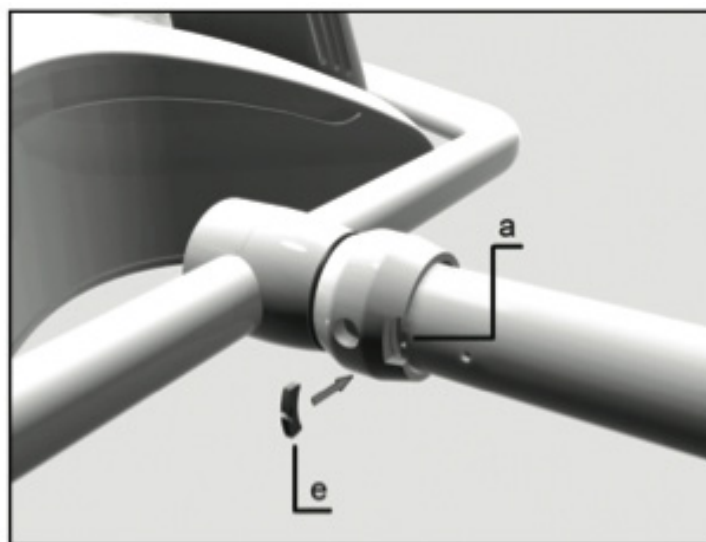

Figure 4
7. Put the key (e) completely into the slot (a), so that the key is engaged into the yoke groove (h). See figure 4.